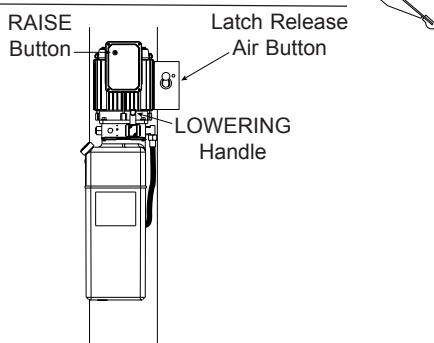

Fig. 2
5. **To Raise Lift:** Push the "RAISE" button on the power unit. Release button at desired height, Fig. 2.
10. Actuate the latch release valve on the power unit column to disengage all four locking latches, Fig. 2. Hold actuator in until lift has fully lowered.
11. Push the lowering handle on the power unit to lower lift, Fig. 2. Lowering speed can be controlled by the force applied to the lowering handle.